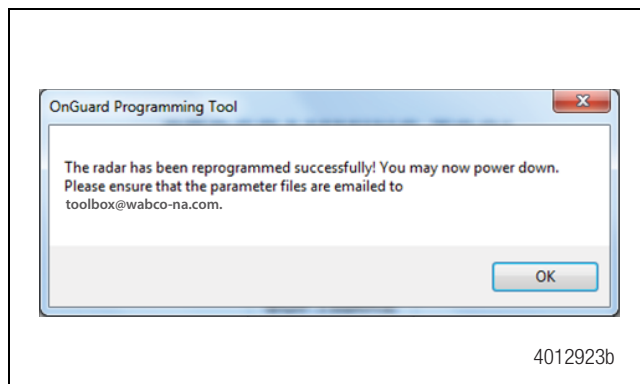
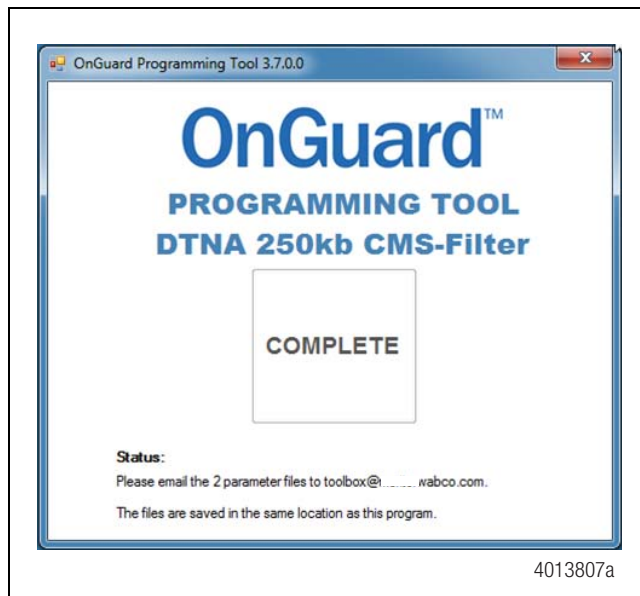

Figure 13
Figure 14
8. Once the process is finished, the following messages will be displayed. Figure 13 and Figure 14. This indicates that the “OnGuard Programming Tool” successfully completed the programming and the parameters were automatically saved using the VIN that you entered earlier. Select “OK” (Figure 13), close the “Complete” screen (Figure 14), and power down the vehicle by cycling the ignition.
9. After the radar has been successfully programmed, you must email the saved “Before” and “After” parameter files to toolbox@wabco-na.com. Figure 14.